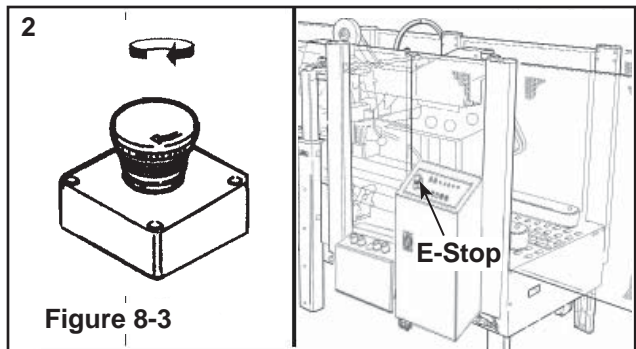

Figure 8-3
2. Lockable emergency stop push button on Control Panel (**Figure 8-3**).